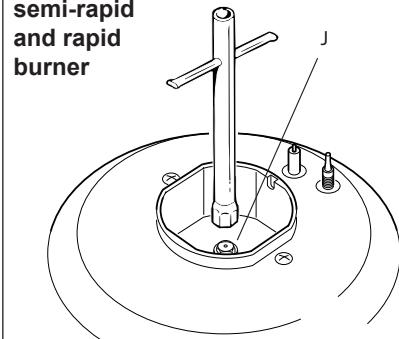

Fig. 2.2a
- Using a wrench, substitute the injectors "J" (figs. 2.2a, 2.2b, 2.2c) with those most suitable for the kind of gas for which it is to be used.